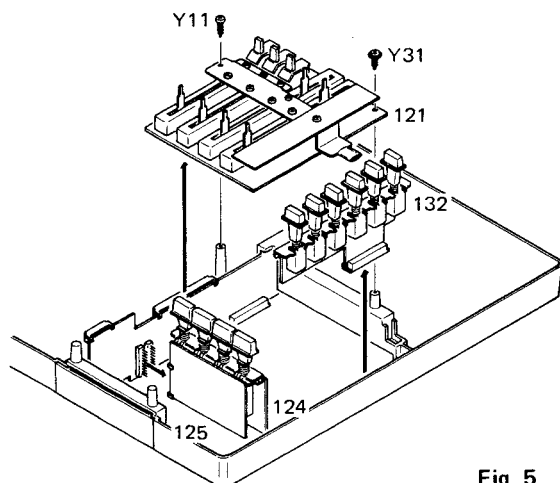

Fig. 5
Lastly, remove the function PCBs (124 & 125) by unplugging it from the connector PCB (126). (cf. Fig. 5)